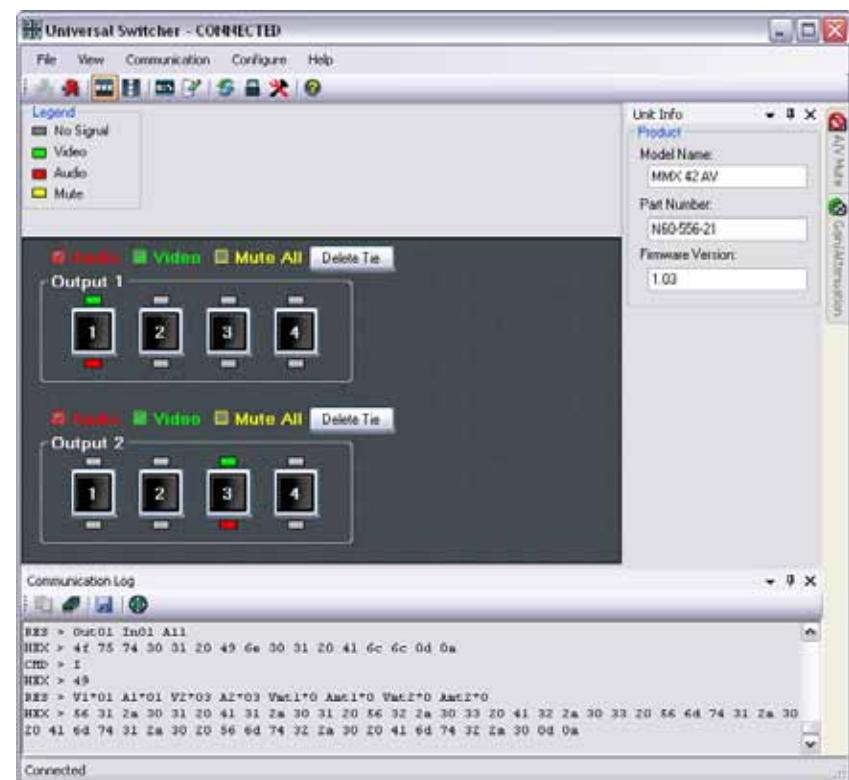
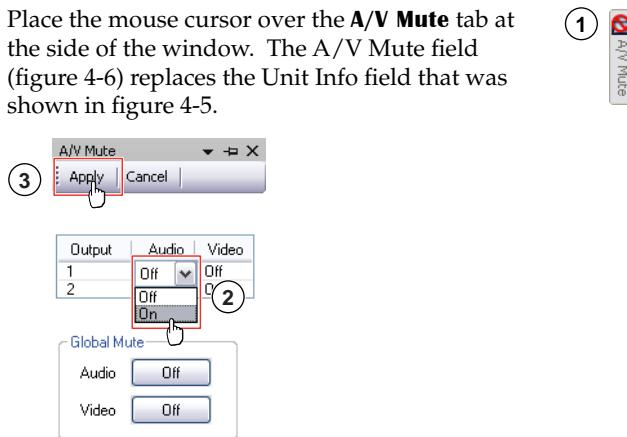
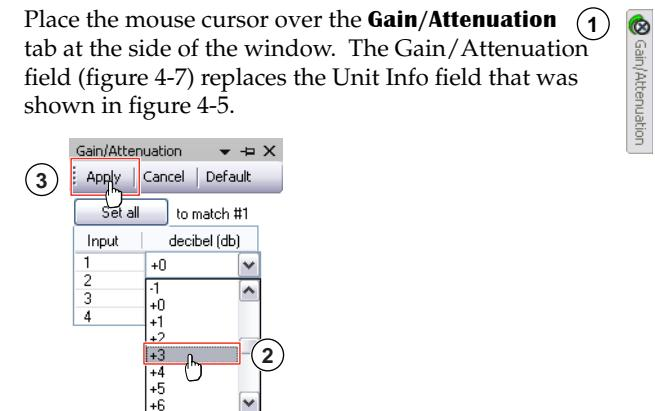

Figure 4-5 — Universal Switcher Control program window
Figure 4-6 — A/V mute field
Figure 4-7 — Gain/Attenuation field
3. The Extron Universal Switcher Control Program window (figure 4-5) displays the current ties.
In figure 4-5:
See figure 4-5. The top row of inputs is available for output 1 and the bottom row of inputs is available for output 2. The same input can be routed to both outputs, but an output can only be tied to a single input.
Tie an input to an output by clicking the numbered input button you want to tie to each output (figure 4-5).
1. Place the mouse cursor over the **A/V Mute** tab at the side of the window. The A/V Mute field (figure 4-6) replaces the Unit Info field that was shown in figure 4-5.
1. Place the mouse cursor over the **Gain/Attenuation** tab at the side of the window. The Gain/Attenuation field (figure 4-7) replaces the Unit Info field that was shown in figure 4-5.